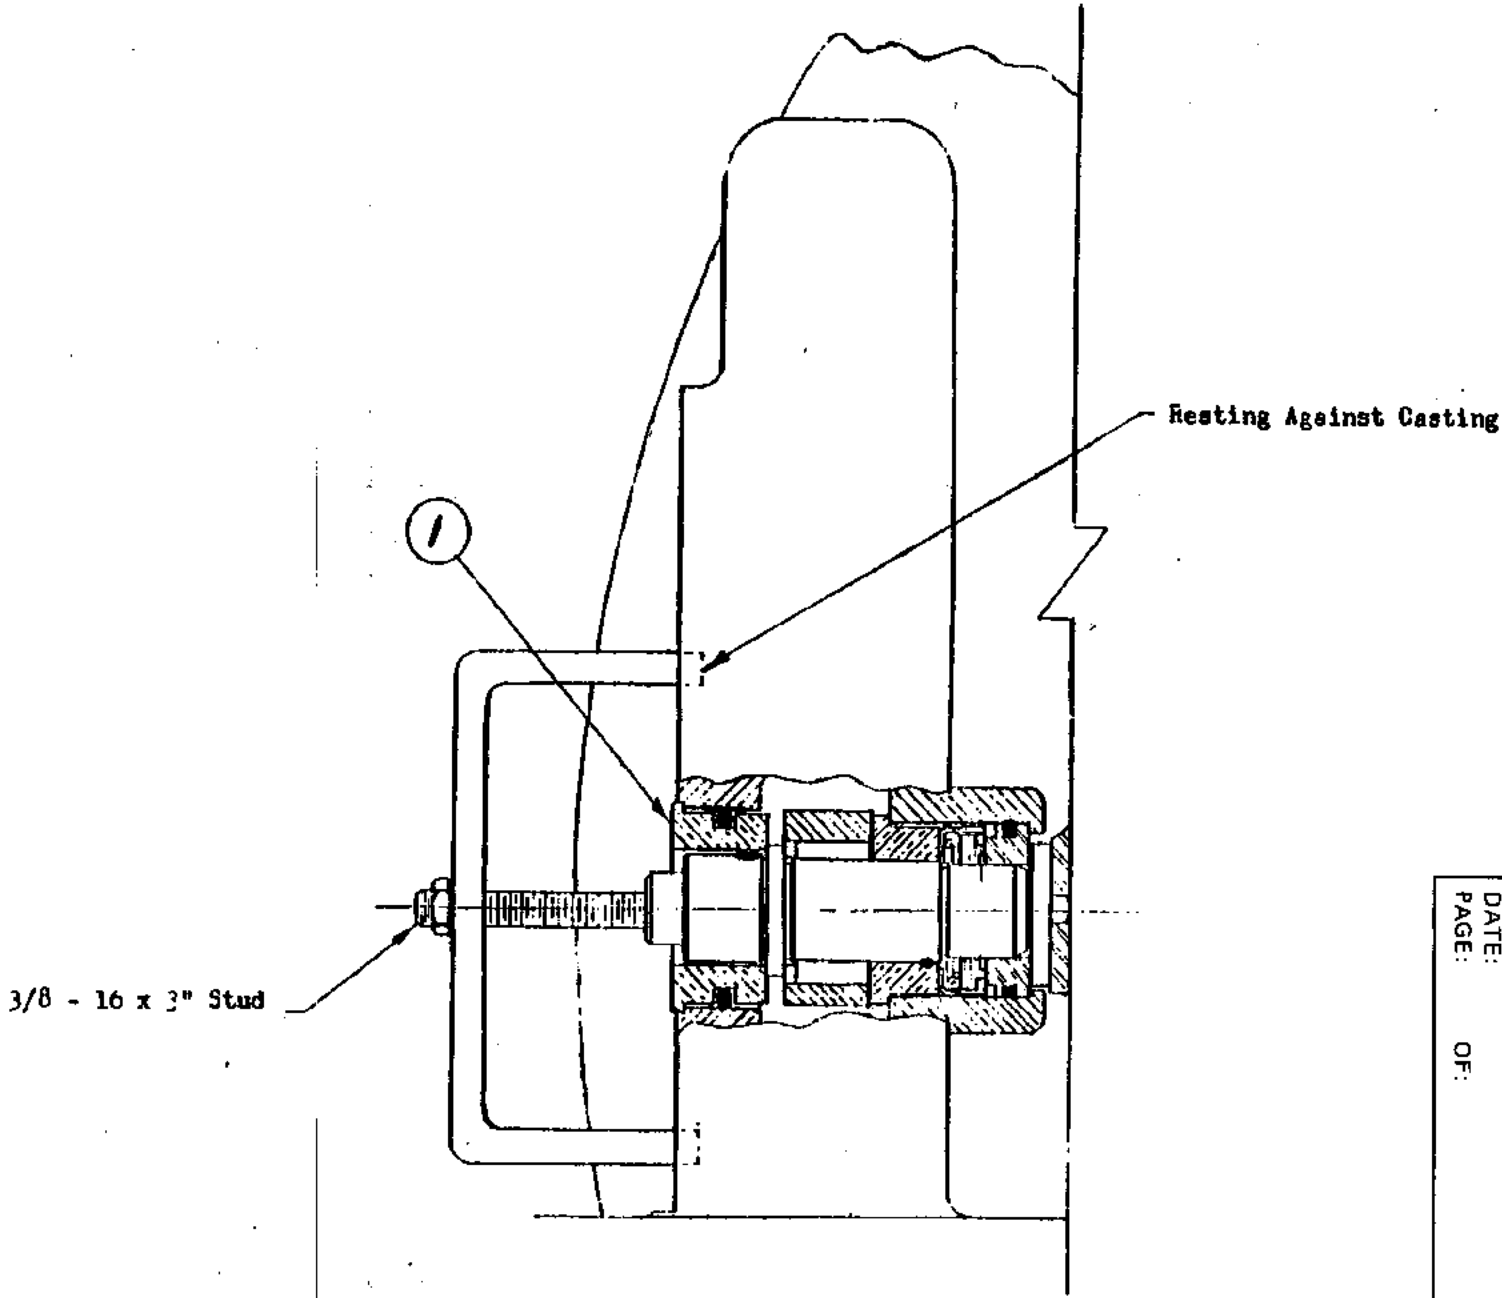
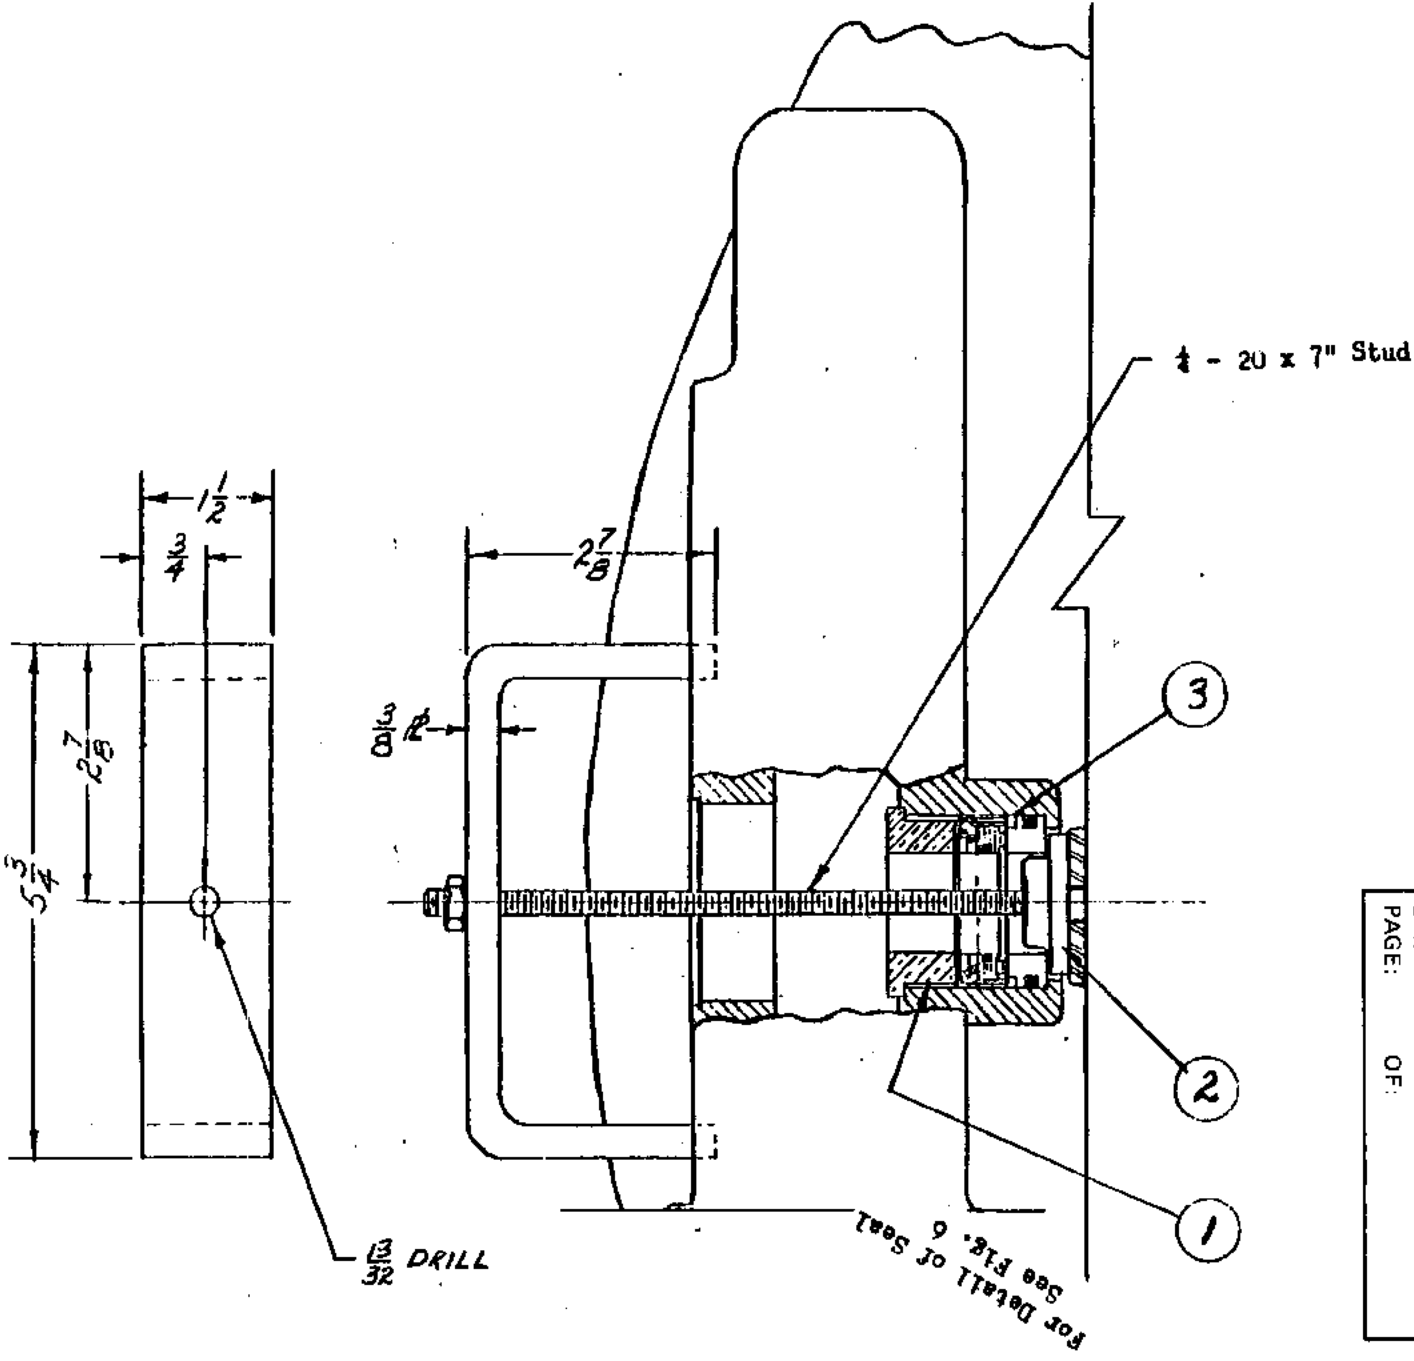

Fig. 2
FIG. 3
3. Using a puller as shown in Figs. 2 and 3, jack the shaft out of the assembly. To prevent binding the gear segment, item 3, Fig. 1, should be held in position by reaching through the piston inspection opening. The jacking plate should not bear against the outside bushing, item 1, Fig. 2, as this part will move out with the shaft.
2. Place the outside bushing, item 1, Fig. 2, in the normal position over the shaft and also place the shaft seal, both rotating and stationary parts, item 3, Fig. 3, over the other end of the shaft and with all of these parts out of the machine, measure the distance between points C and D, as shown on Fig. 5. This should be between 1/32" and 3/32", greater than the measurement taken in step 1, above.